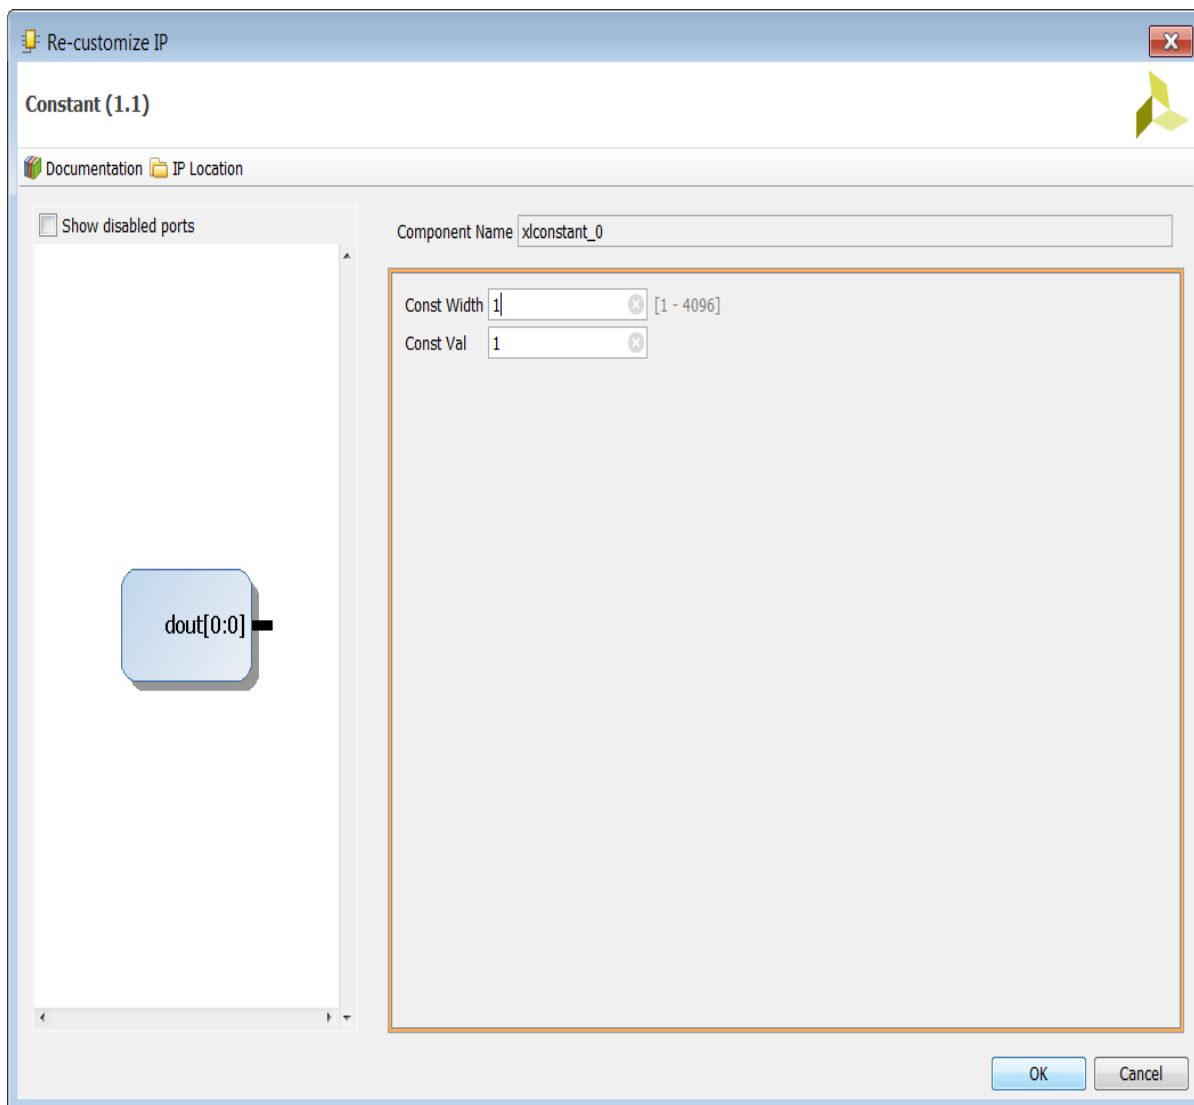

Figure 9-21: Constant IP Properties
- d. Double-click the Constant IP symbol (Figure 9-21) and verify that **Const Width** and **Const Val** are set to 1.